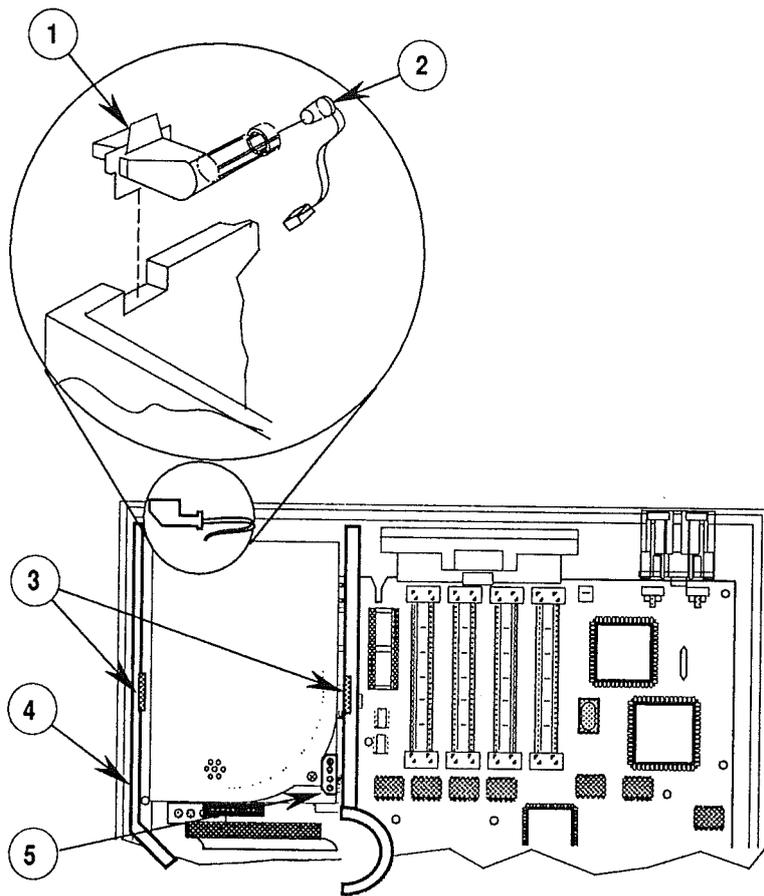

FIGURE 10
3. Remove the diode drive light on the front of the case (Figure 10) by lifting up on the plastic holder (Figure 10, #1) and pulling the diode (Figure 10, #2) out from the holder.
4. Grasp the two metals tabs (Figure 10, #3) located on the side of the hard disk drive bracket. Squeeze the tabs and gently pull up on the bracket.
The hard disk drive (with its metal bracket) will start to come out from the large plastic carrier unit (Figure 10, #4). However, the hard disk drive will not pull out all the way; you must first disconnect the power supply connector (Figure 10, #5). Then remove the hard disk drive.